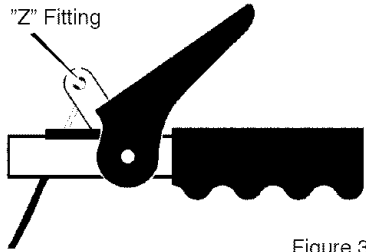

Figure 37
**To check for correct adjustment, unhook "Z" fitting at clutch lever (see Figure 37).**